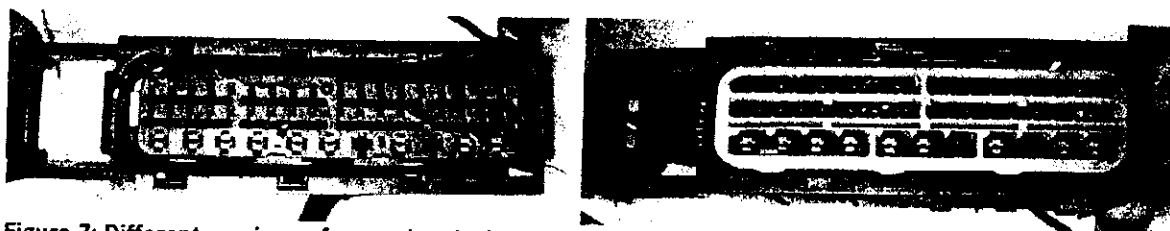

Figure 7: Different versions of secondary lock
8. Check which SBC connector housing version is installed. (Figure 7)